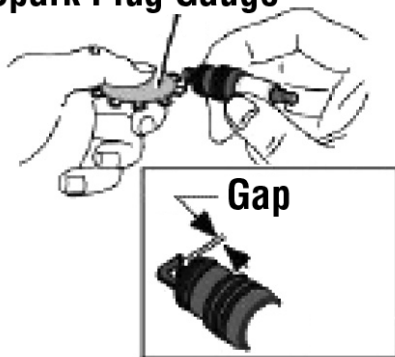

Fig. 7
4. Check the gap with a spark plug gauge as shown in Figure 7. If necessary, reset the gap (See Specifications).